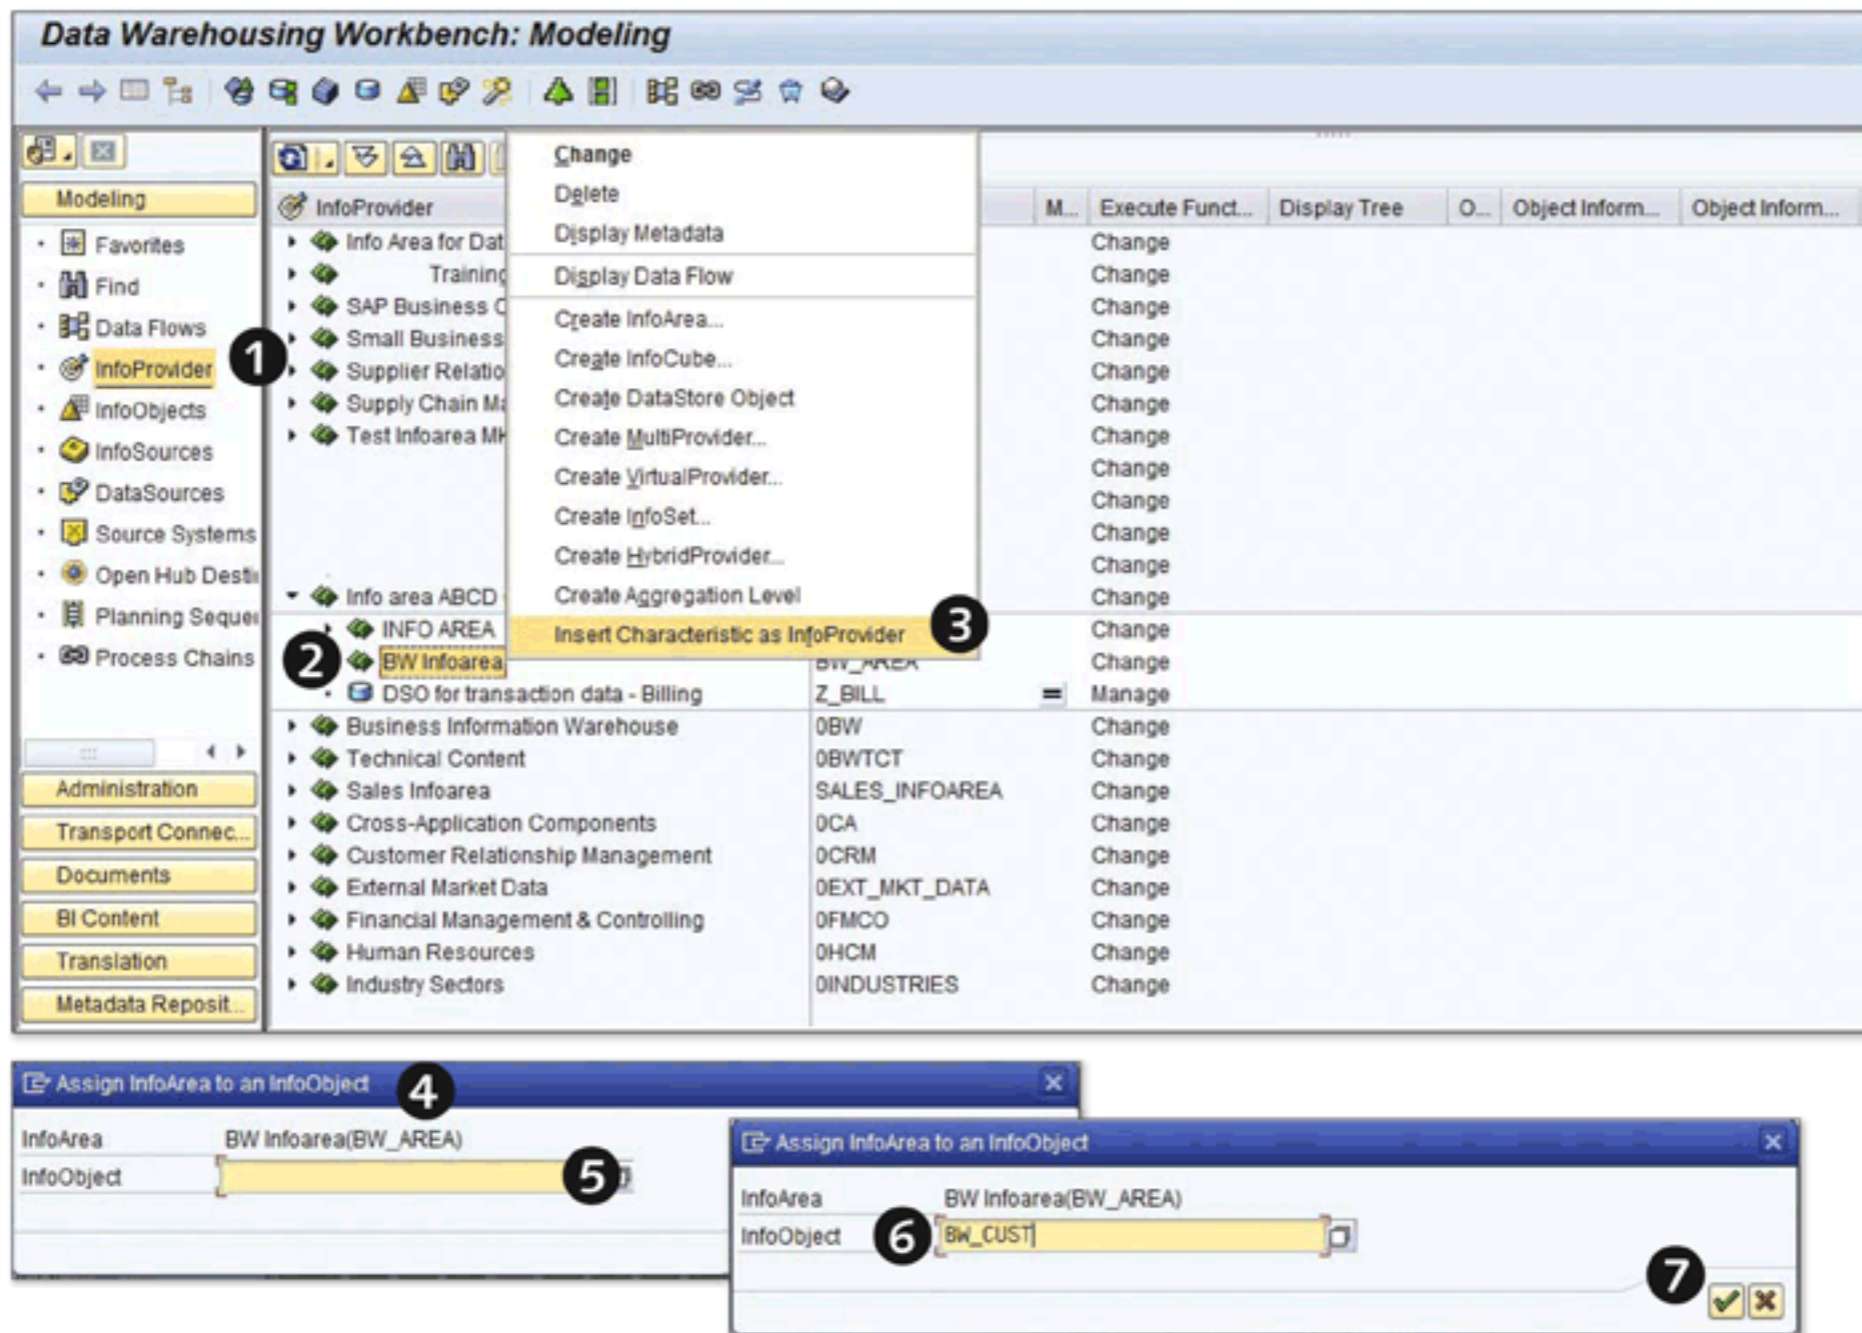
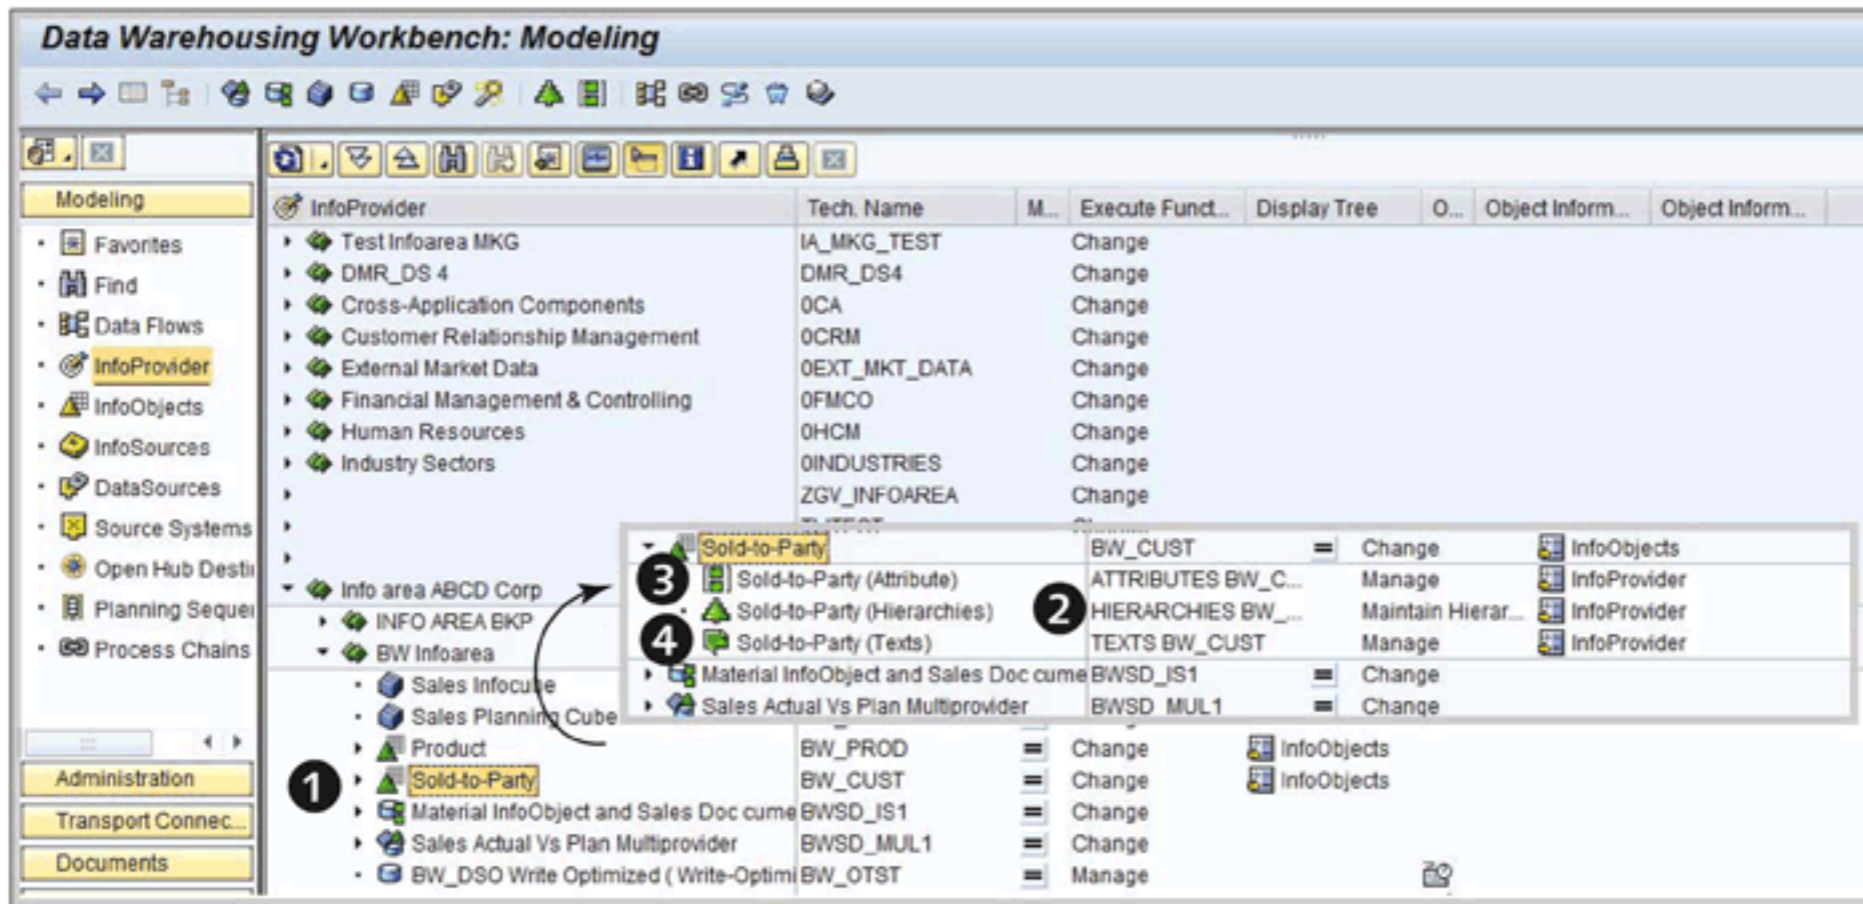

Figure 7.19 Inserting InfoObject as InfoProvider
Figure 7.20 InfoObjects Available in InfoProvider Tree
First, select the INFOPROVIDER under MODELING, as shown in ❶ of Figure 7.19. Select INFOAREA BW_AREA (❷), open the context menu, and select INSERT CHARACTERISTICS AS INFOPROVIDER (❸). A pop-up box appears (❹) with an input box for entering the name of the InfoObject (❺)
Enter the technical name of the InfoObject, BW_CUST (6 of Figure 7.19), and click on the CONTINUE icon. The result of this action is shown in Figure 7.20; the InfoObject is available under the INFOPROVIDER tree in InfoArea BW_AREA (1 of Figure 7.20). Expand the BW_CUST (text description: SOLD-TO PARTY) tree. This action shows three InfoProviders for BW_CUST: one is for hierarchies (2), the second one for attributes (3), and the third for texts (4). Recall that while configuring the InfoObject BW_CUST (in Chapter 3), we configured it to have exactly these InfoProviders.